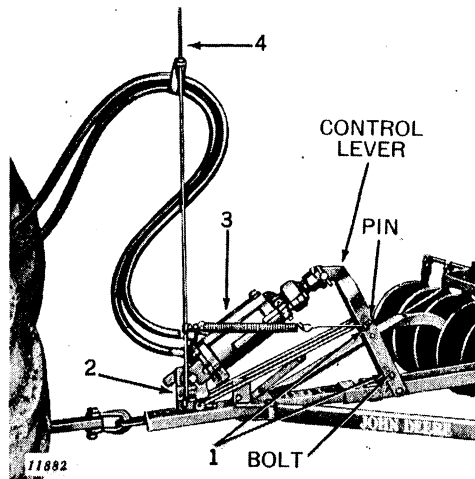

Figure 22—Remote Cylinder Adapter Attachment
1. Remove bolt and pin, Figure 22, so welded pins at the bottom of control lever can be spread far enough to slip into holes provided in drawbar. Install pin in lower hole for "JA" or "JBA" 5- and 6-foot sizes. Install pin in upper hole for 7-, 8-, and 10-foot sizes.